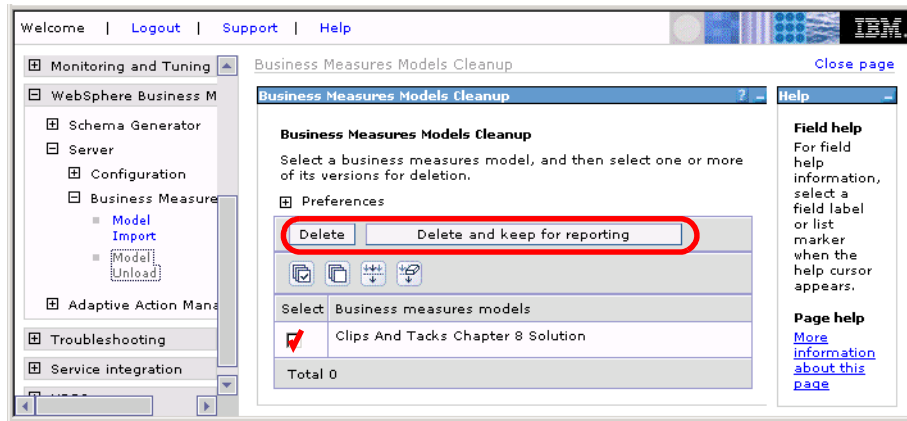

Figure 12-35 Unloading a model
- ▶ Open the administrative console in the Monitor Server. Navigate to *WebSphere Business Monitor* → *Server* → *Business Measures Model* → *Model Unload* (Figure 12-35):